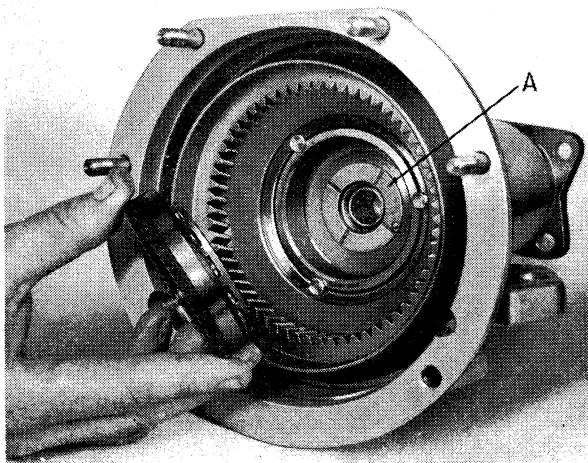

Fig. 20 Transferring Roller Clutch to Annulus.
transferred direct from the assembly ring to the annulus, remembering to put the bronze thrust washer (A) (Fig. 20) into position first (Figs. 20 and 21).